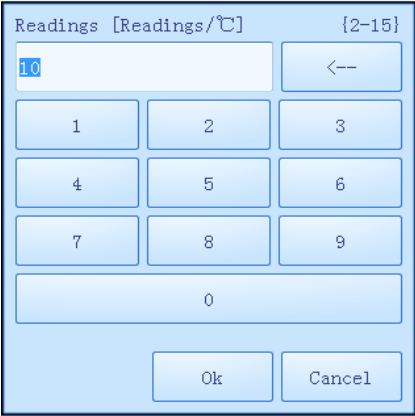

Figure E-3.8a Step Edit Window - Continuous Melting Step Parameter Setting
► Continuous melting stage allows the instrument system to read fluorescence more frequently, user can press the input boxes of **Readings** to set the fluorescence reading times per °C for the current continuous melting step, as shown in figure E-3.8a.